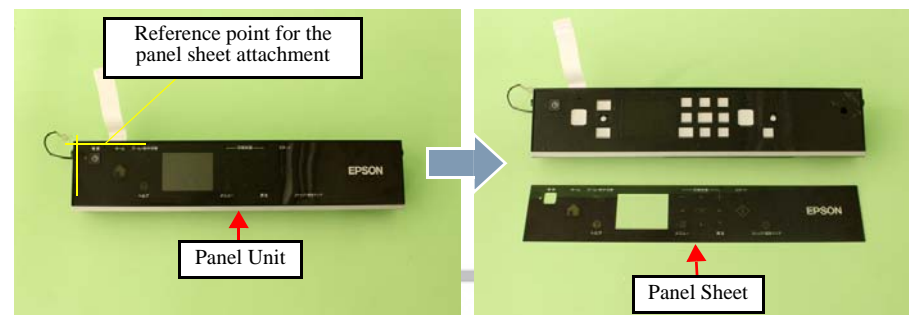

Figure 8-8. Removing the Panel Sheet
- Taking the top left corner of the Panel Sheet as the reference point, align the top edge with the top rib of the Panel Unit and put the left edge against the rib, then attach the Panel Sheet without any lifting. (See Figure 8-8.)